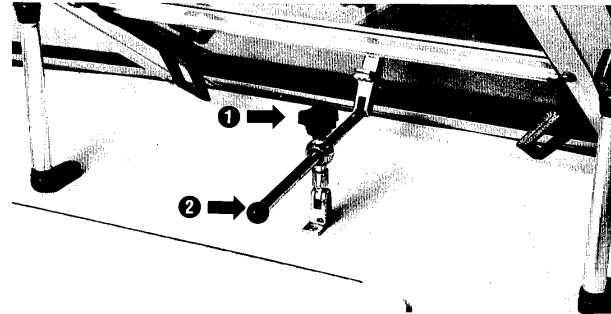

Figure 16
1. Turn the knob (1) counterclockwise. See figure 16.
2. Push the rod (2) forward. See figure 16.